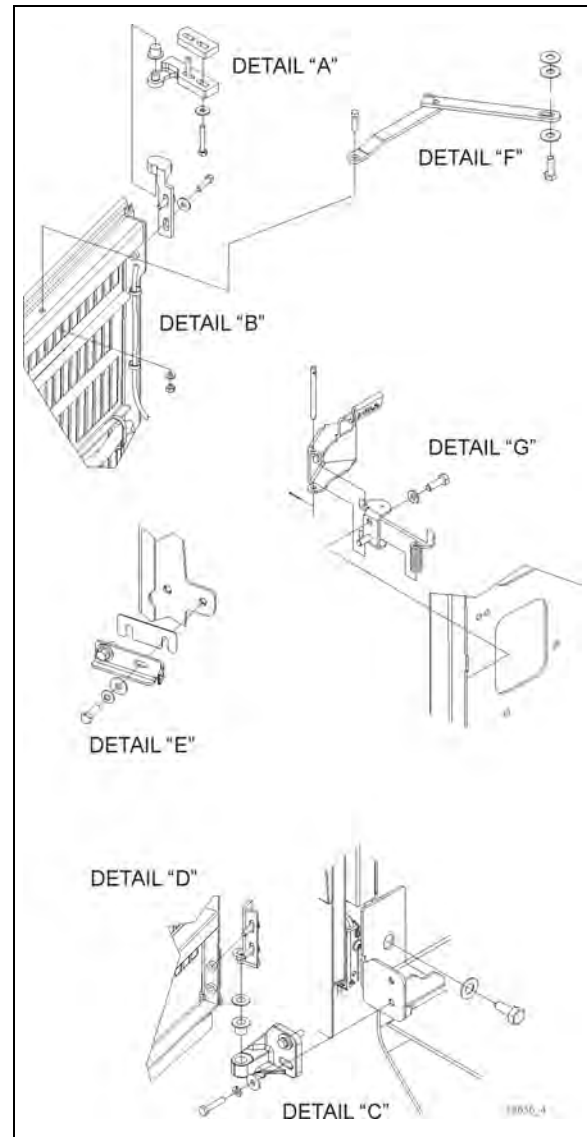

FIGURE 140: RADIATOR DOOR DETAILS
To adjust the latch mechanism (details "E" and "G", Figure 140) and the striker pin:
5. Open the door and slightly loosen the latch tab (detail "E", Figure 140).